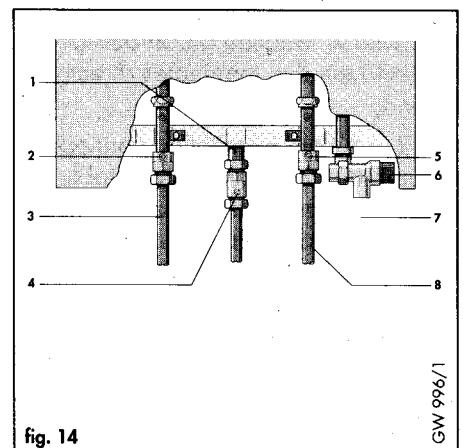

fig. 14
### 4.5.3 Pipework connections (fig. 14)
Figure 14 shows the central heating, (2,5) gas (1) and pressure relief valve (6) connections.
The appliance contains the pressure relief valve required for a sealed system (6, fig. 14). Connect a discharge pipe not less than 15 mm diameter to the outlet of this valve.
The boiler is supplied with a 20 x 15 mm gas service valve (4, fig. 14). Fit the 20 mm compression fitting to the boiler gas inlet (1, fig. 14) and tighten. Install a gas supply pipe not less than 15 mm diameter and connect to the gas service valve. (Ensure the gas supply pipework is adequately sized such that a 20 mbar - (8" w.g.) - gas pressure is available at the boiler inlet at full flow rate). Tighten all union connections.